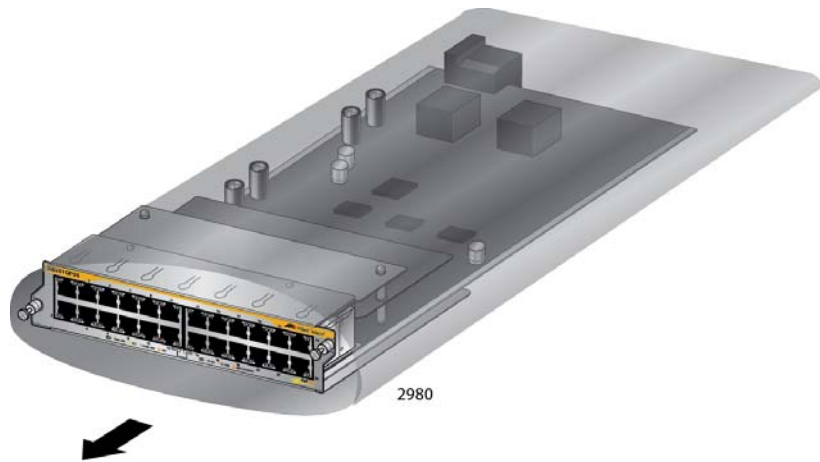

Figure 88. Removing an Ethernet Line Card from the Anti-static Bag
4. Carefully remove the Ethernet line card from the anti-static bag. Refer to Figure 88.